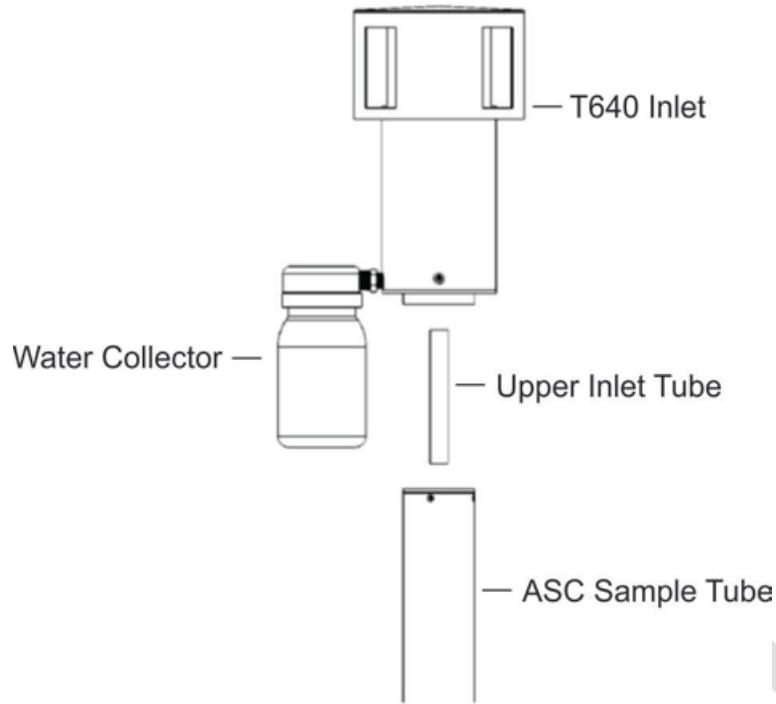

Figure 21. 640 Inlet (standard) and ASC Assembly.
4. Assemble the inlet and the ASC as depicted in Figure 21, ensuring the parts fit snugly with no gaps. Note that if the instrument is to be installed in a shelter with roof penetration, leave the inlet with the water collector off for now.